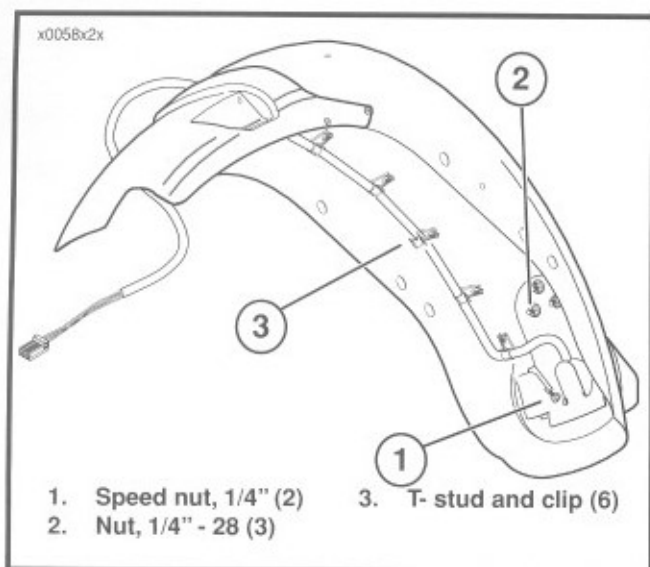

Figure 2-92. Tail/Brake Lamp and License Plate Bracket Removal
2. See Figure 2-92. Remove three 1/4"-28 nuts securing license plate bracket. Position assembly on new fender. Tighten screws to 6 ft-lbs (8 Nm) torque.